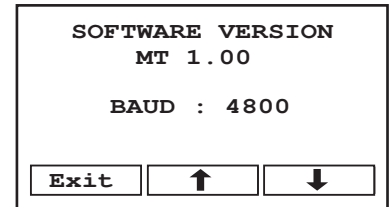

Fig.40. Baud rate setup menu
2. Press the BAUD key to open the baud rate setup menu (see fig. 40)